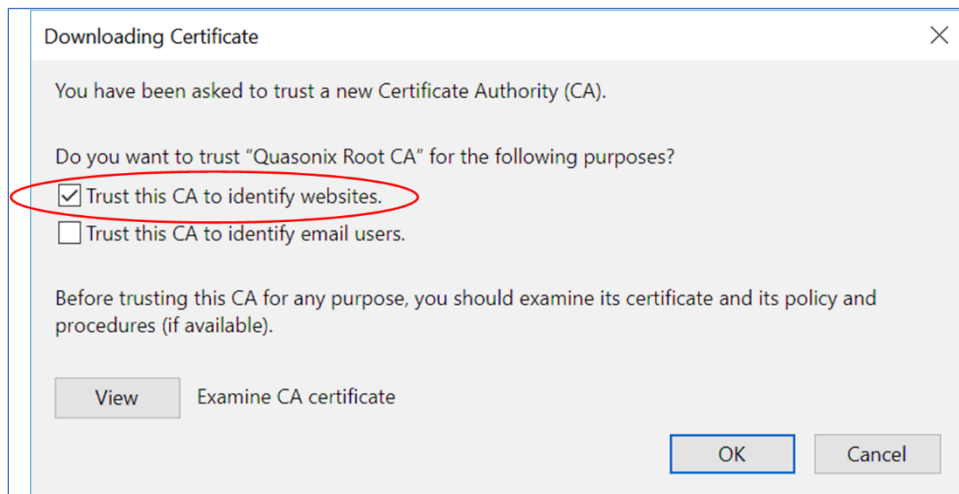

Figure 334: Firefox Downloading Certificate Window
- The Downloading Certificate window displays, as shown in Figure 334.